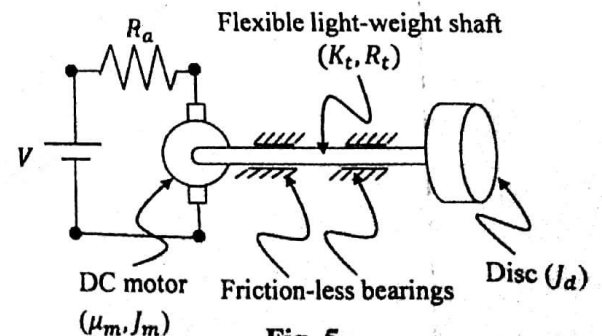

Fig. 5.
5. Draw a block diagram model of the system shown in Fig. 5. The permanent magnet DC motor has a motor characteristic constant μ_m and the rotary inertia of its rotor is J_m . The disc is perfectly balanced and has a rotary inertia J_d . The armature resistance is R_a and the armature inductance is neglected because the electrical sub-system time constant is negligible in comparison to that of the mechanical sub-system. The rotary inertia of the light-weight rotor shaft is lumped at its two ends, i.e. already included in the specified values of J_m and J_d . The torsional stiffness and damping of the rotor shaft are K_t and R_t , respectively.